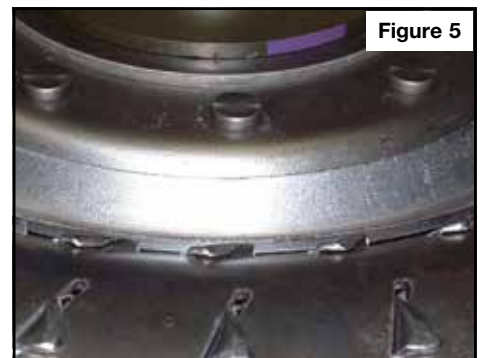

Figure 5
- d. When the plate has been properly flattened, the O.D. will have grown by .025–.030". The stock O.D. is 6.180" and the correct modified O.D. is 6.205–6.210". The modified plate should fit like the plate in **Figure 5**. The modified plate should click into place and be held by the vanes.